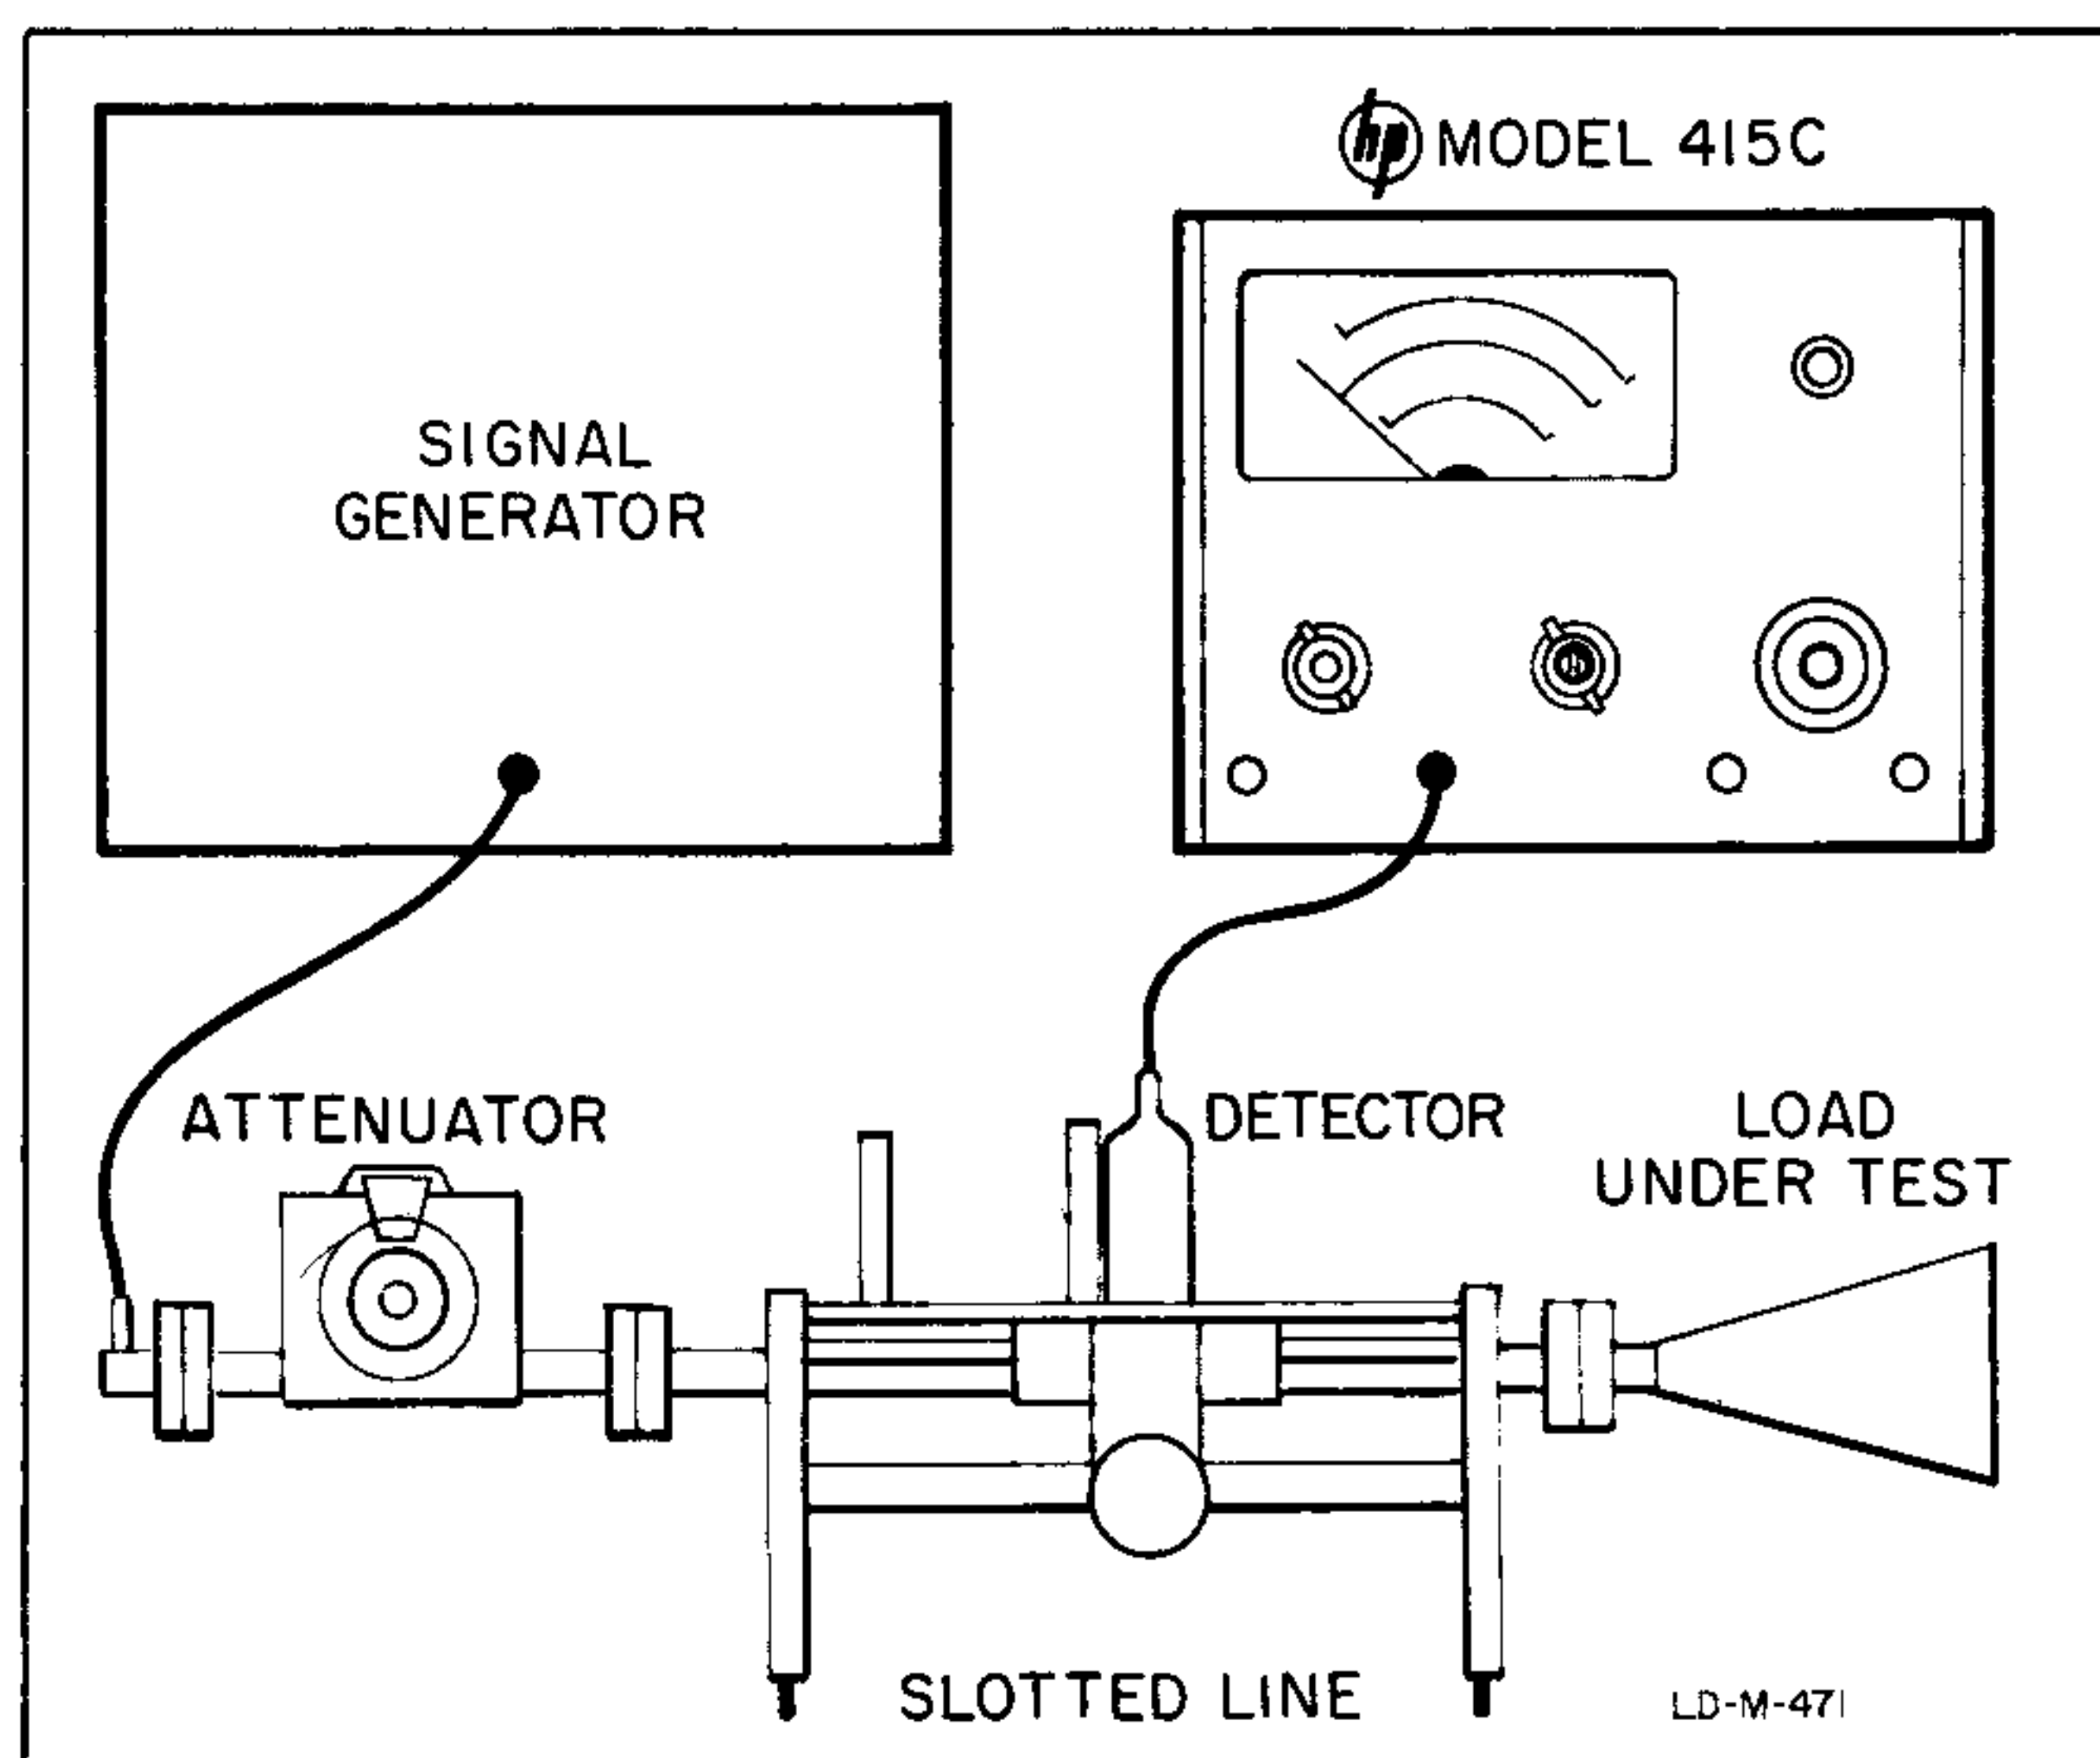
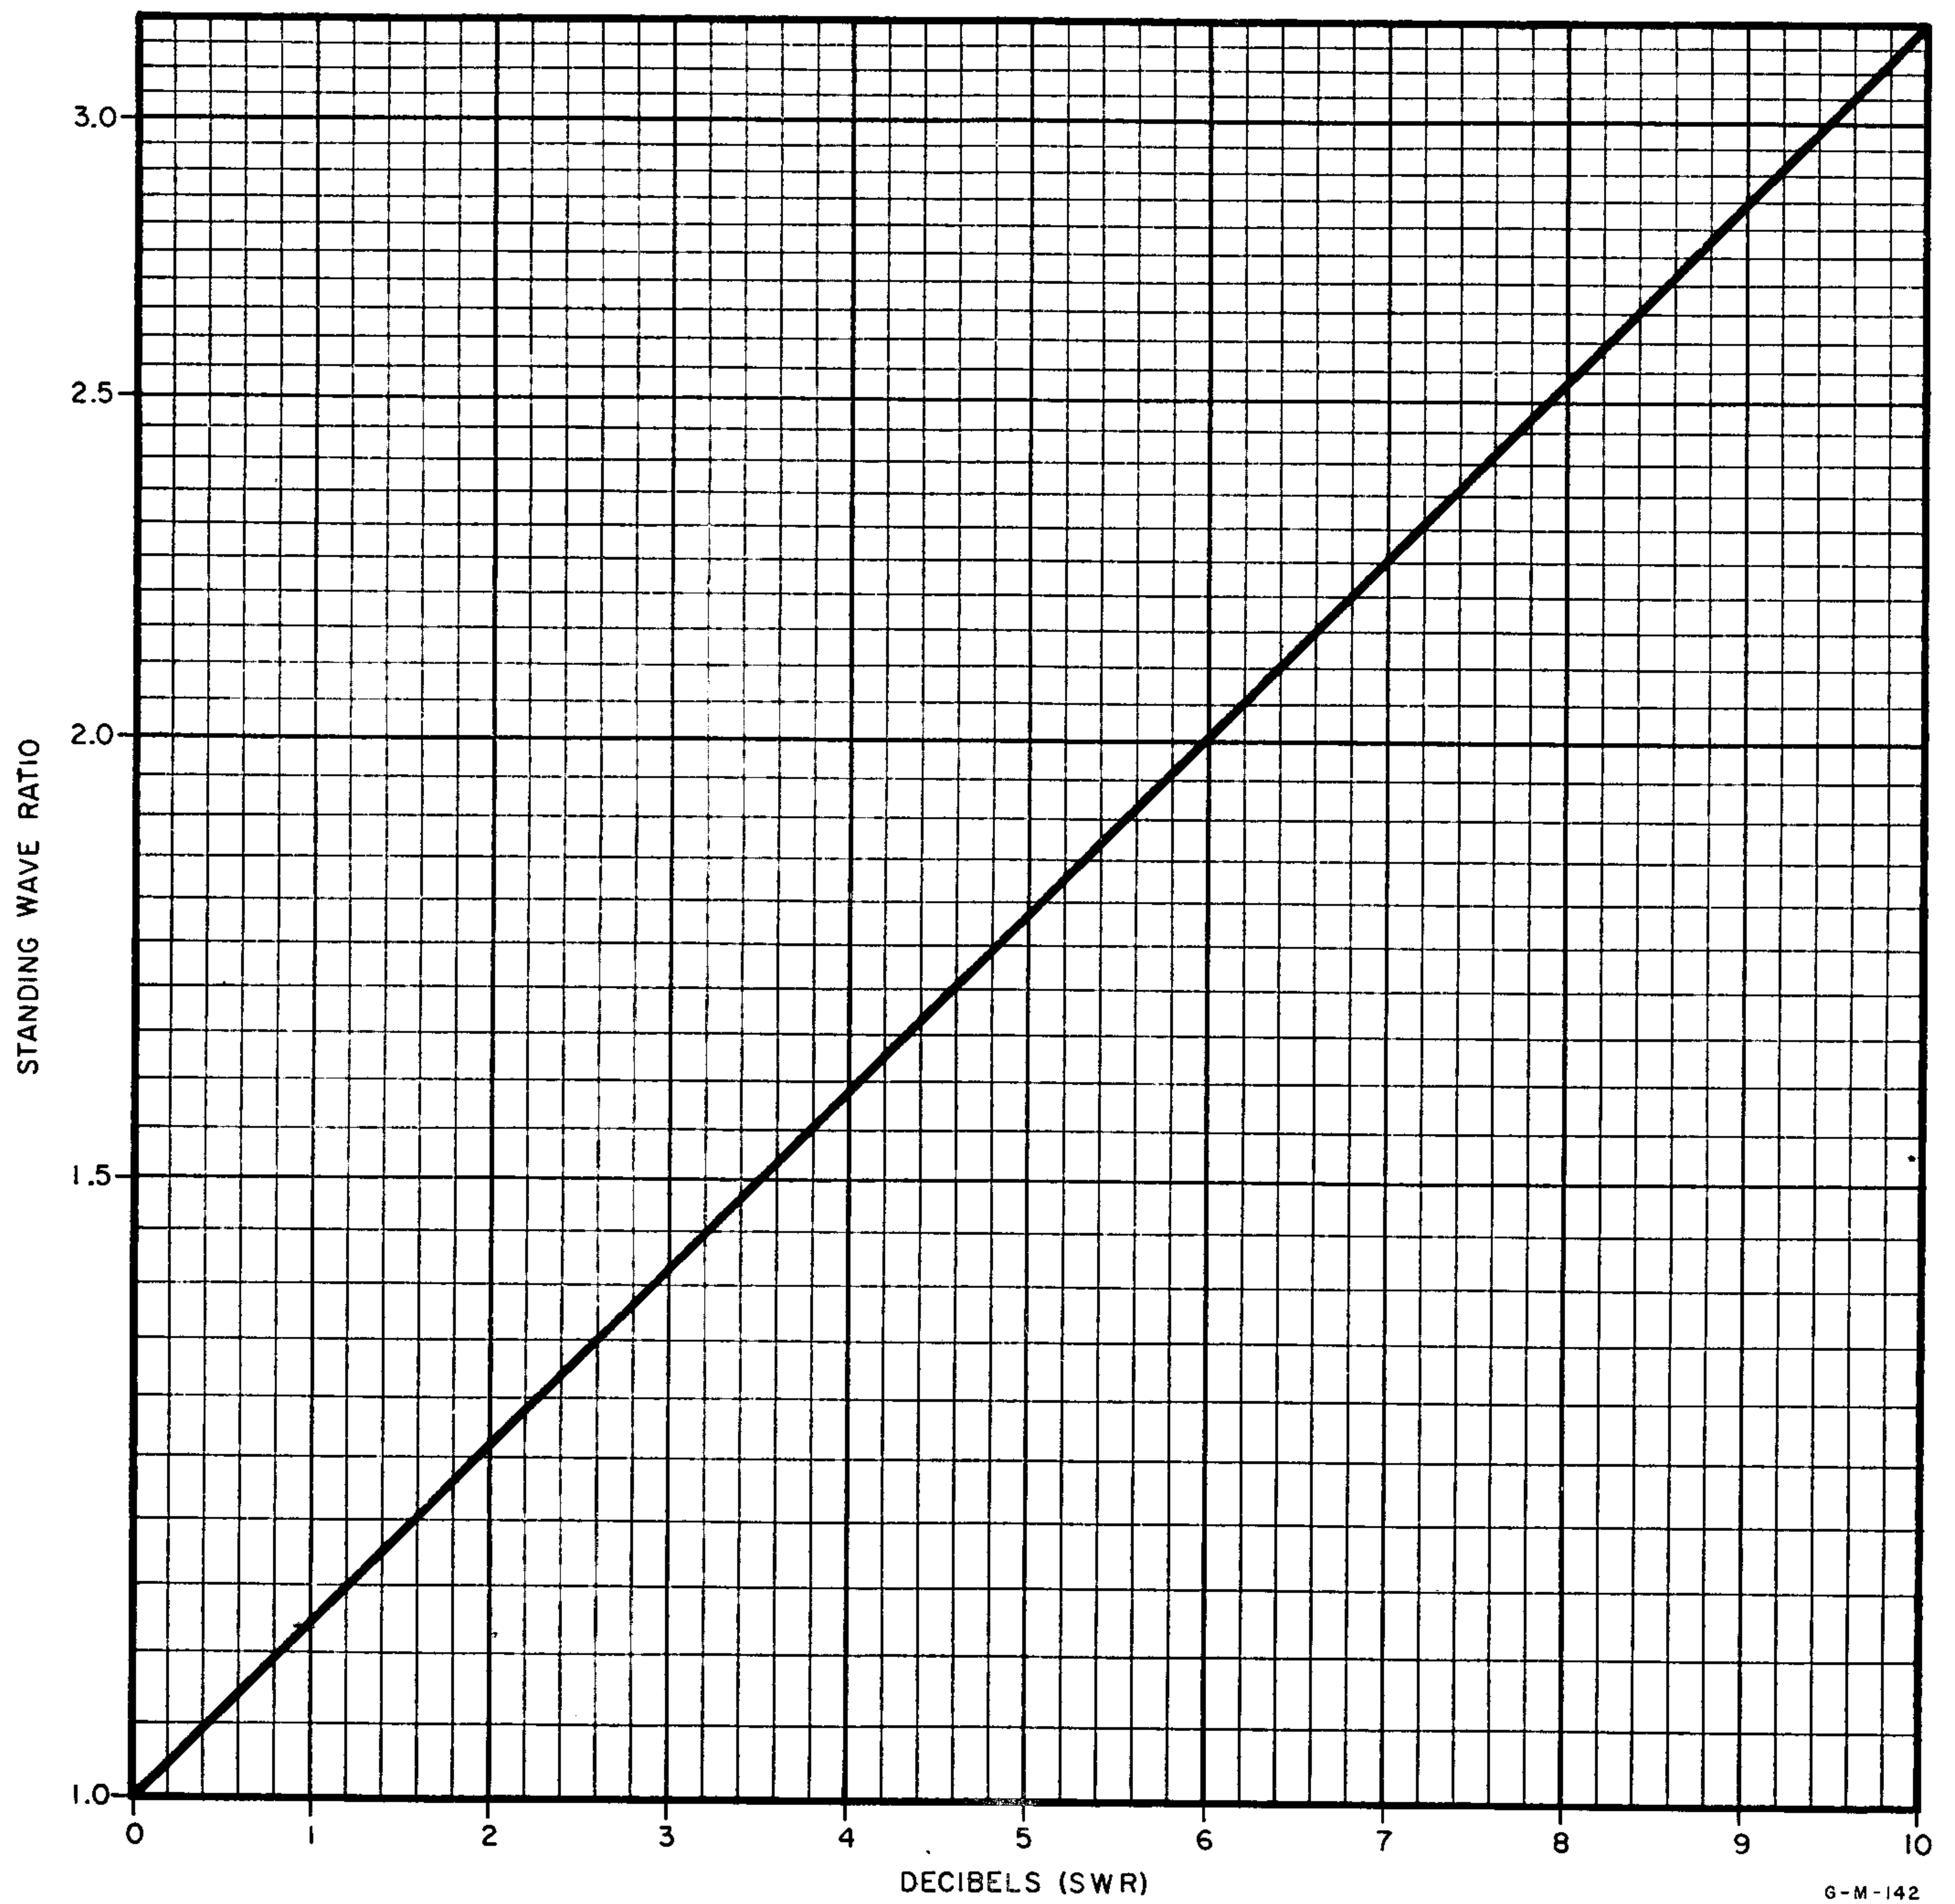

Figure 3-3. Typical SWR Measurement Setup
Figure 3-6. Expanded Section of Figure 3-7
3-18. A typical setup of equipment used in swr measurements is shown in figure 3-3. The following is a brief description of this equipment and some of the desired characteristics.
3-36. The Model 415C may be used to measure a standing wave ratio as a direct reading or as a decibel reading to be converted to swr. Figure 3-3 illustrates a typical equipment setup suitable for measuring swr with the below procedures. Normally the measurement of swr will lie in a range from 1:1 to 10:1 (low). However, measurements greater than 10:1 (high) may be made and read on the Model 415C as swr, or other techniques using the Model 415C as the indicator may be used. The EXPAND switch of the Model 415C allows full scale presentation of any 2.5 db segment of the 10-db steps, and figure 3-6 permits conversion of
k. If the indicated swr is between 1 and 3.2, greater accuracy in a reading is possible if the Model 415C EXPAND function is used. For a swr between 1 and 1.3, a swr scale is provided for a direct reading when the EXPAND switch is changed to the 0.0 position. If the swr is between 1.3 and 3.2, the EXPAND db scale may be used to obtain an accurate db reading for conversion to swr using figure 3-6. For swr between 3.2 and 10, a scale on the meter provides the reading. Refer to figure 3-8 and obtain the swr reading as follows:
the needle indication on the 0 to 2.5 DB scale and the EXPAND switch setting (for example, $0.95 + 7.5 = 8.45$ db). Locate this db reading on figure 3-6 and note the corresponding swr value (8.45 db is read as swr of 2.66).
3-40. GENERAL. A reading is possible on the Model 415C for swr greater than 10. If the indication is more than 10 after step k (3) of paragraph 3-37, change the RANGE switch to the next 10 db position (now two steps, or 20 db, above the initial setting). Read the swr on the top (1 to 4 SWR) scale and multiply the reading by ten. Here, again, a db reading may be converted to swr using figure 3-6. The reading used for converting is the amount of db above the initial RANGE switch setting in step e, of paragraph 3-37.
- The swr in db is the difference between the rf attenuator readings of step b and c. Use figure 3-6 or 3-7 to convert to swr.